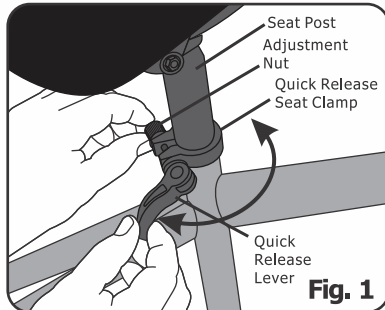

Fig. 1
1. When Quick Release is in the open position, see (Fig. 1) insert the seat post between the Maximum and Minimum Seat Post Marks.
1. Disconnect the linear pull brake lever arm, as shown in **Fig. 1**, to allow the front tire to pass between the linear pull brake pads when the wheel is installed. (1) Squeeze the two lever arms together by hand. (2) Use other hand to pull the guide pipe across and up to unhook from the left lever arm (3). This allows enough room for the wheel to be installed.